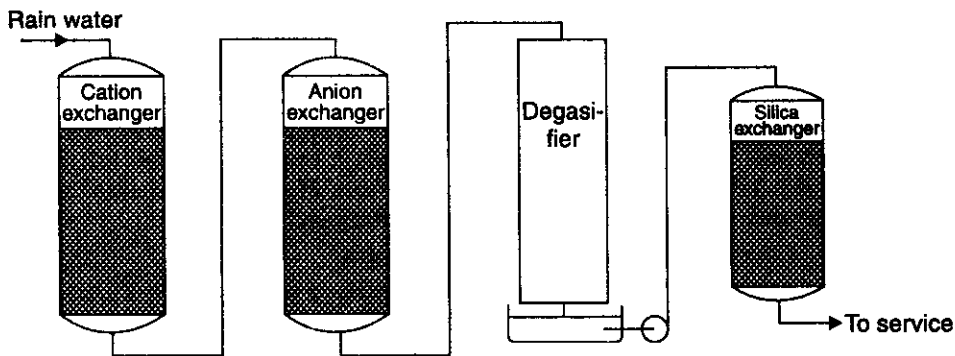

Fig. 3.142. Demineralising process.
*the most economical method of producing make-up water for high-pressure boilers.* Fig. 3.142 shows a series process for demineralisation. A simple demineraliser would use only the first two units.